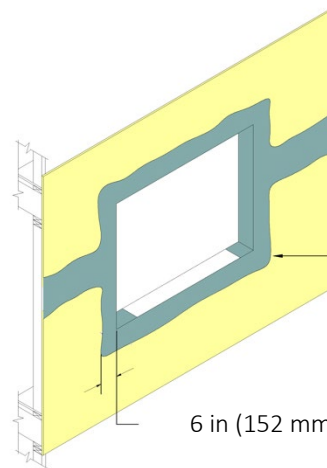

Fig. 10
- 2) Using a stainless steel trowel apply Backstop NT – Texture over the Grid Tape extending to the inside face of the opening and onto the face of the exterior sheathing a minimum of 6 in (152 mm) – Figure 10.